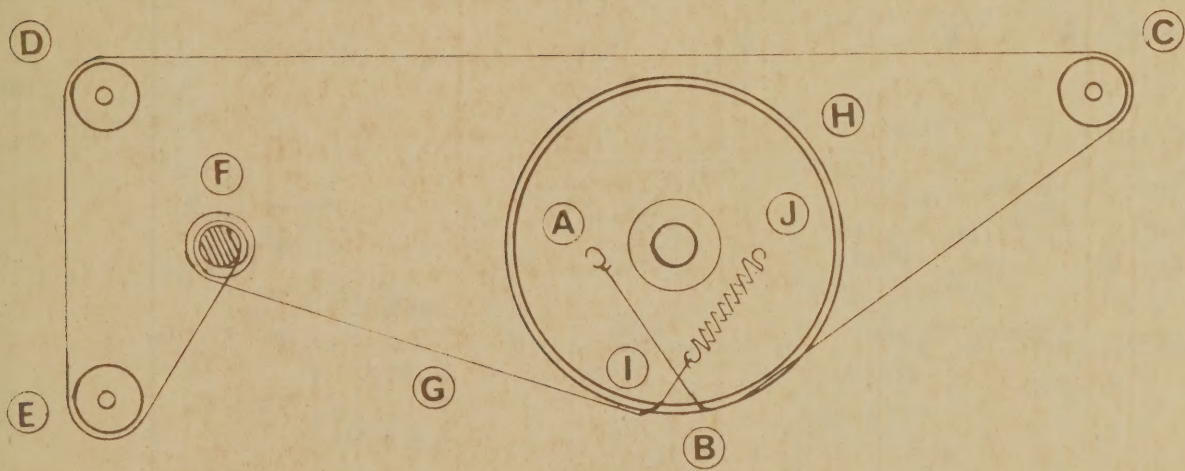

FIG. 2
3. Thread the dial cord in the manner shown in (Fig. 2). Necessary length of the dial cord is specified in (Fig. 3).
4. Thread the dial cord starting at (A) and passing to (E) and (F), at which point the cord is wrapped three turns. At (G) turn the dial drive shaft to the left and right while pulling the cord so that it does not slacken.
5. Wind the cord around the pulley one turn at (H), insert at (I), and secure the cord end at wheel (J).